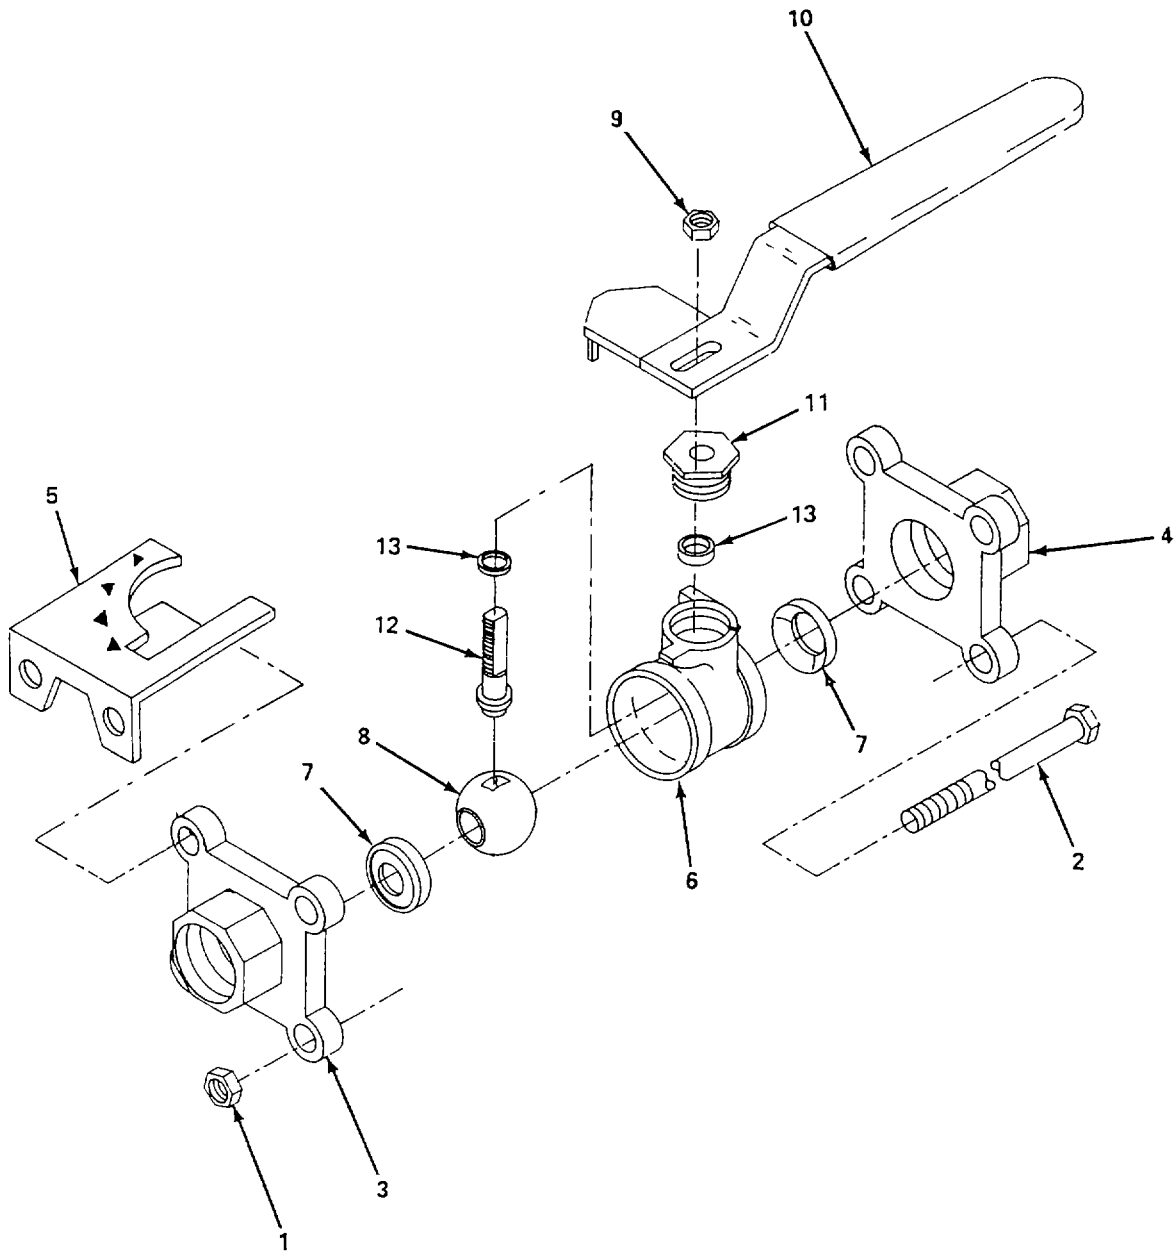

Figure 5-65. Ball Valve 3/4 Inch, Repair.
- (9) Apply teflon tape to all pipe threads.
- (10) Install valve (11) and pipe (12) on manifold (13).
- (11) Install valve (8) and pipe (9) on manifold (13).
- (12) Install valve (5) and pipe (6) on manifold (13).
- (13) Install valve (2) and pipe (3) on manifold (13).
- (14) Pressurize system and check for leaks.
b. Repair. (figure 5-65)**NOTE**